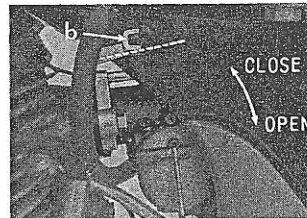

Fig. 4
2. Fully close the choke shutter **b**. (fig. 4)